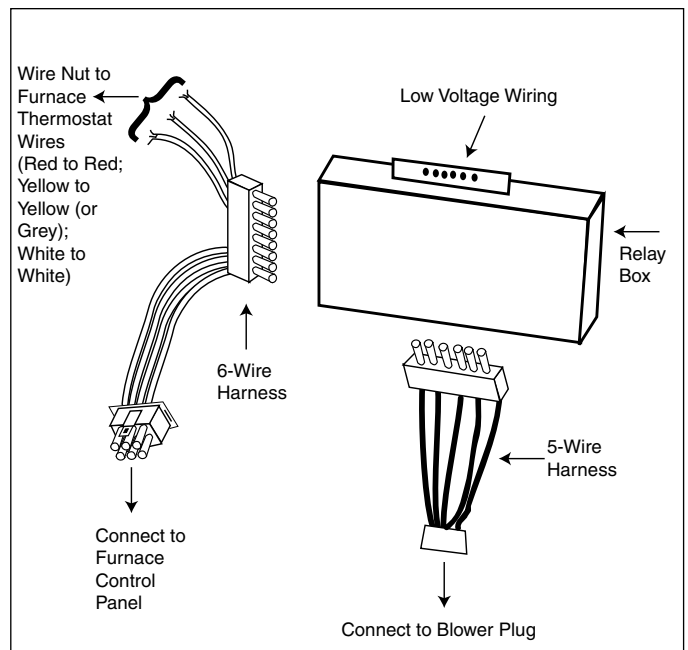

Figure 4. Relay Box Connection
Find the 6-wire harness supplied with the relay box. Connect its 8 circuit in-line connector into the side of the relay box. Connect the 6 circuit matrix connector on the other end of the harness into the furnace where the blower was plugged. Wire nut the remaining harness wires to the furnace thermostat wires (see Figure 4).
Find the 4-wire harness supplied with the relay box. Connect its 6 circuit matrix connector to the blower plug and connect its 6 circuit in-line connector to the bottom of the relay box (see Figure 4).
6. Bring in the low voltage field wires from the thermostat and air-conditioning or heat pump unit and attach them to the low voltage screw terminals protruding from the top of the relay box (see Figure 4). **See Figure 7 for System Wiring.**